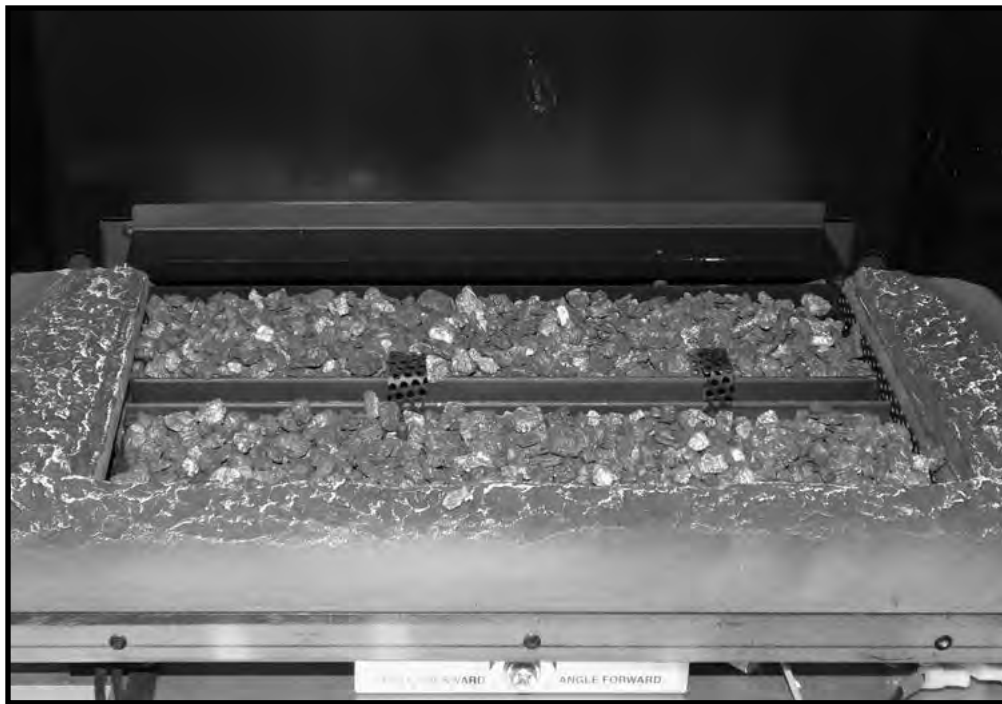

Figure 96: Ember pieces in burner tray.
6. Fill the burner trays with enough ember material to cover the bottom of the burner trays (Figure 96).